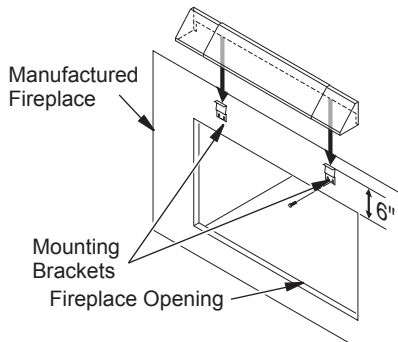

Figure 12 - Installing Hood Above Opening on Manufactured Fireplace
2. Tape mounting bracket to fireplace housing. Make sure top of bracket is six inches above fireplace opening (see Figure 12).
- Use the sheet metal screws provided to fasten brackets to fireplace housing (see Figure 12, page 3).
- Slide hood over mounting brackets (see Figure 12, page 3).